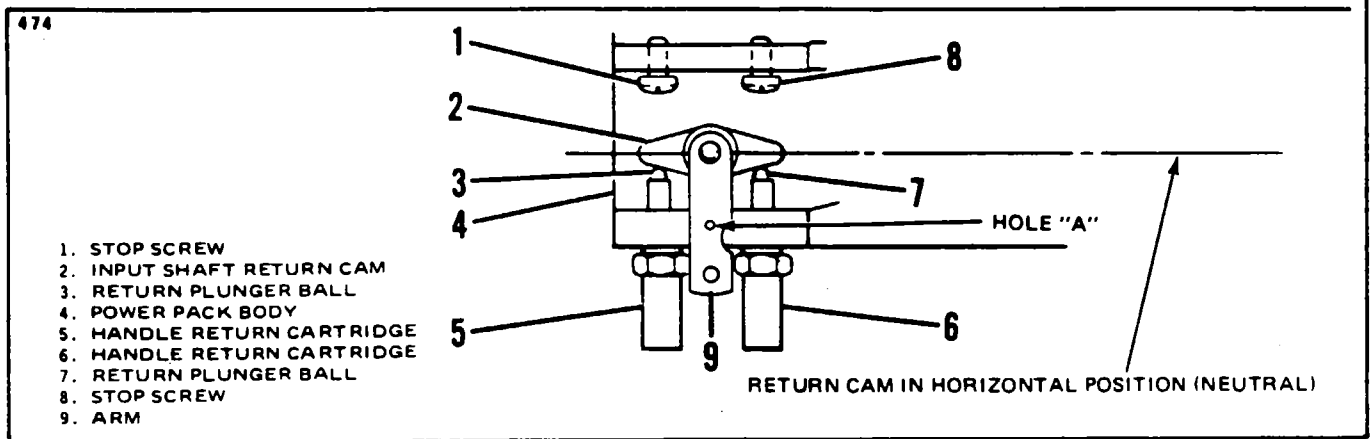

Figure 6-18. Handle Release Adjustment (Wiebel Tool)
If the selector spool is not protruding .06 inches out of the manifold opposite the rack when installing into the body (67) (see Figure 6-18), the gear will not be engaged in its proper position. Also, do not move the selector spool more than .12 inches out of the manifold opposite the rack. "O" ring (18) could be caught and damaged, and would have to be replaced by a new "O" ring (18).
- c. Check that the landing gear selector spool (17) slides freely.
- d. Inspect the door solenoid spool (10) for freedom of movement within the transfer valve sleeve (7).
6-87. ADJUSTMENT OF HANDLE-RELEASE MECHANISM. (Refer to Figure 6-18.) The following procedure outlines the adjustments to set the handle-release cartridges and stops in the correct position before installing the Power Pack into the airplane.
c. Rotate the input shaft to the neutral position, which will bring the input shaft return cam (2) to the horizontal position.
d. Hold the input shaft return cam (2) in the horizontal (neutral) position by inserting a .125 dia. drill or punch through hole in the arm (9) and into rigging hole in body (4). Rigging hole is noted as hole "A" in Figure 6-18. Adjust handle return cartridges (5 and 6) in such a manner that their return plunger balls (3 and 7) touch the surface of the input shaft return cam (2) slightly.